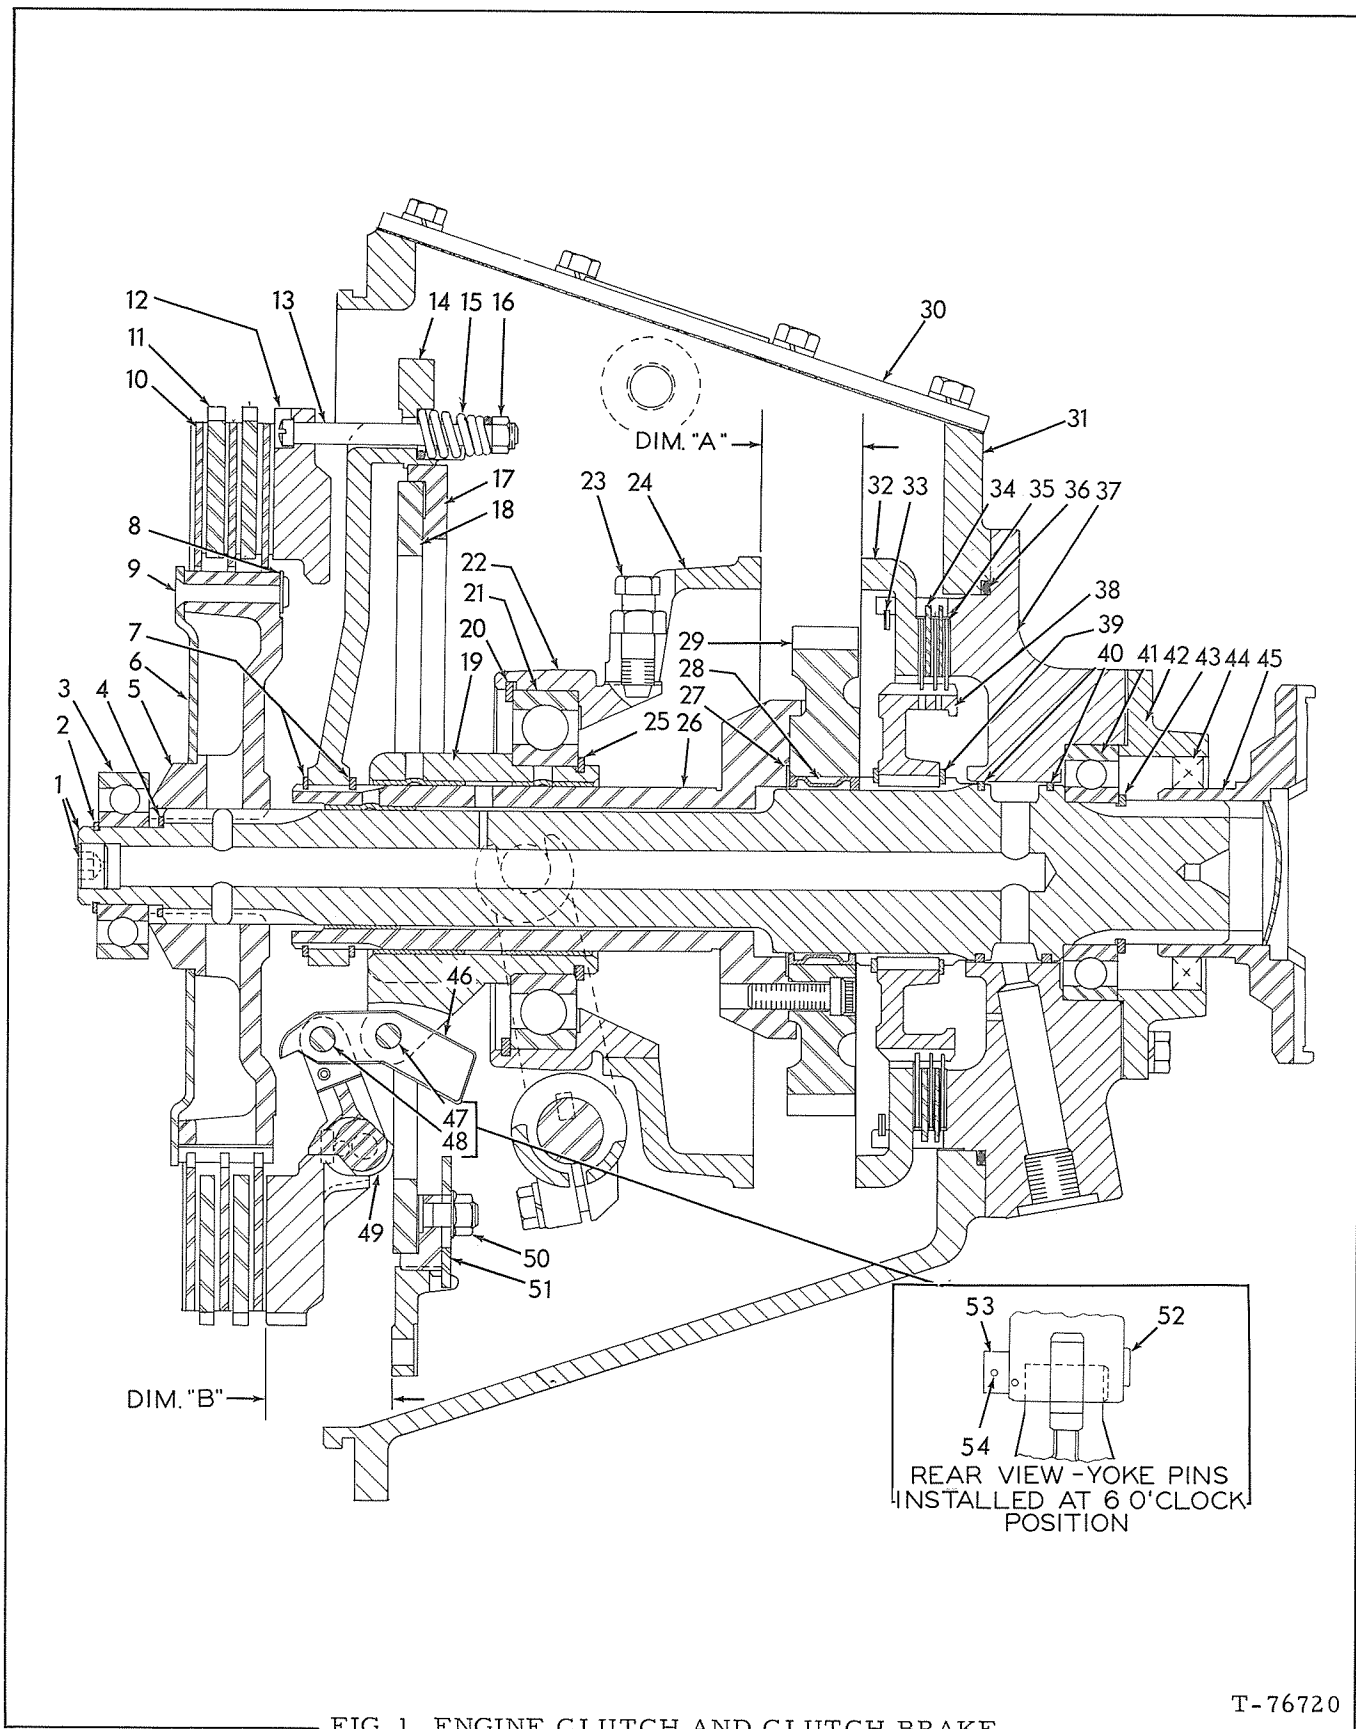

FIG. 1 ENGINE CLUTCH AND CLUTCH BRAKE
Remove clutch access cover, Fig. 1 (30). Reach through access opening and remove retaining ring (33) from rear cover (37); slide pressure plate (32) out of rear cover.
Remove rear bearing retainer, Fig. 1 (42), and rear bearing snap ring (43).
Remove bearing from rear cover and lubricate I.D. of sealing ring bore. Start rear cover -- with new O-ring, Fig. 1 (36) -- into clutch housing. Align marks placed on housing and rear cover before removal and pull rear cover into housing with attaching capscrews. Align teeth of steel plates with splines in rear cover as the cover is being installed.
Reach through clutch access hole and install pressure plate, Fig. 1 (32), against brake plates. Pressure plate must be installed with the two narrow spaced fingers at the top to properly match with brake apply plate. Secure pressure plate with retaining ring (33); be sure ring is fully seated in its groove.
Install bearing, Fig. 1 (41), on shaft; seat bearing in rear cover and install snap ring (43). Be sure snap ring is seated in its groove.
Inspect rear oil seal, Fig. 1 (44); replace it if damaged. Lip of seal faces toward bearing side of retainer. Attach retainer and gasket to rear cover.
LEGEND FOR FIG. 1
Remove front snap ring, Fig. 1 (2); use small puller to remove pilot bearing (3) from shaft.
Slide clutch hub and clutch discs from shaft. Cut off ends of rivets, Fig. 1 (9), and remove washers (8) to slide clutch discs from hub.
Slide drive shaft front yoke off rear of clutch shaft and remove rear bearing retainer, Fig. 1(42).
Remove clutch access cover, Fig. 1(30). Reach through access opening and remove retaining ring (33) from rear cover (37); slide brake pressure plate (32) out of rear cover.
Remove rear bearing snap ring, Fig. 1 (43); bump rear end of clutch shaft until it is free of rear bearing. Remove snap ring(39) and slide brake hub from shaft.
Remove remaining clutch parts from housing; lift brake apply plate, Fig. 1 (24), to clear the shifting yoke shaft.
Remove yoke pins, Fig. 1 (47), and front snap ring (7); lift back plate and pressure plate from accessory drive gear sleeve.
Remove adjusting ring lock, Fig. 1 (51); unscrew adjusting ring (17) and lift plate (18) from back plate.
Remove nuts and springs from capscrews, Fig. 1 (13), to separate the pressure plate and back plate.
Remove rear snap ring, Fig. 1 (7); slide throw out bearing sleeve (19) off accessory drive gear sleeve.
Loosen setscrew, Fig. 1 (23), and unscrew clutch brake apply plate (24) from throwout bearing carrier.
Remove snap ring, Fig. 1 (20); tap rear side of sleeve (19) to remove throwout bearing from carrier (22).
Remove snap ring, Fig. 1 (25); use suitable press to remove throwout bearing (21) from sleeve (19).